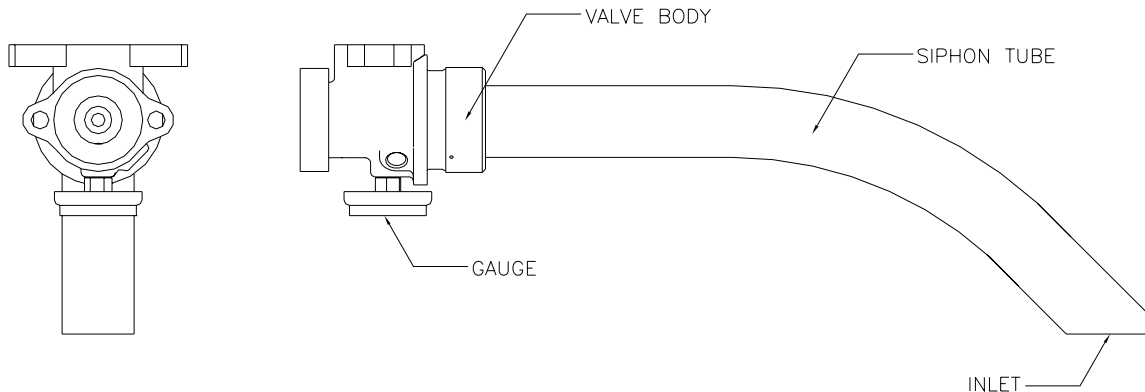

FIGURE 40 - 421220-X₁ SIPHON TUBE ORIENTATION
ASSEMBLY WILL NOT FUNCTION AS INTENDED IF THE SIPHON TUBE IS NOT ORIENTED AS DEPICTED IN FIGURE 40 OR 41 AS APPROPRIATE BASED ON EXTINGUISHER ASSEMBLY PART NUMBER.
- I. Screw the siphon tube into the valve until bottomed-out and then unscrew it only enough to orient per one of the following figures (figure 40 & 41).